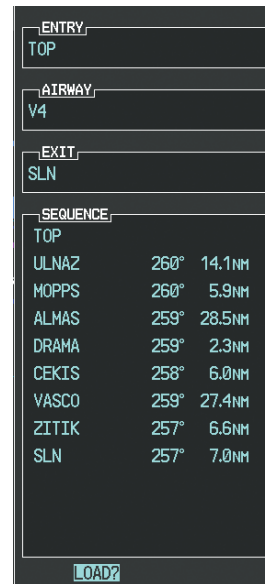

Figure 7-18 Ready to Load V4
- j) Press the **ENT** Key. The selected airway and exit are displayed, and the prompt "LOAD?" highlighted as in Figure 7-18.